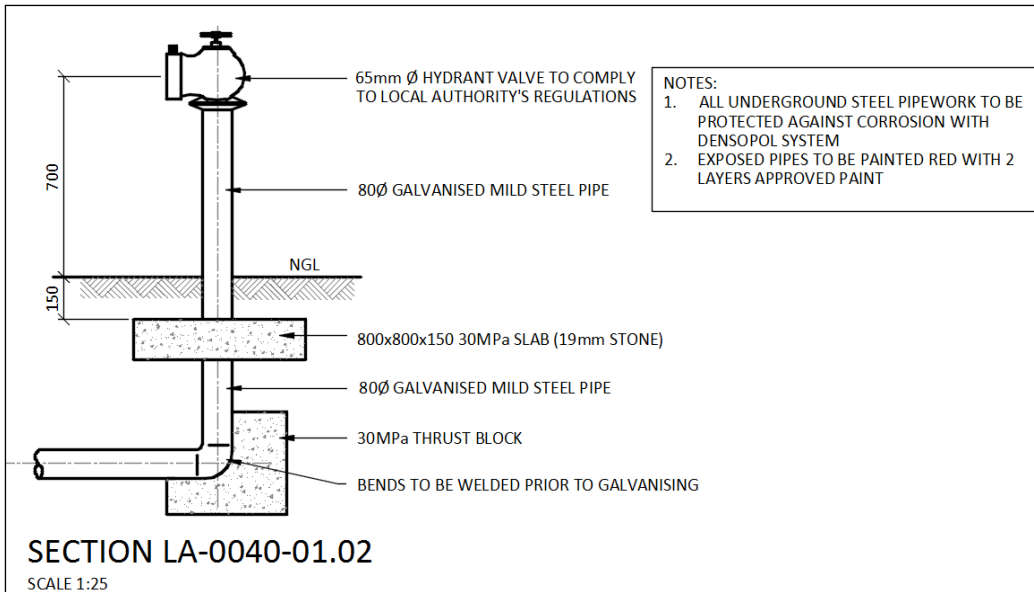

Figure 40: Typical Fire Hydrant Detail
- Figure 40: Typical fire hydrant detail.